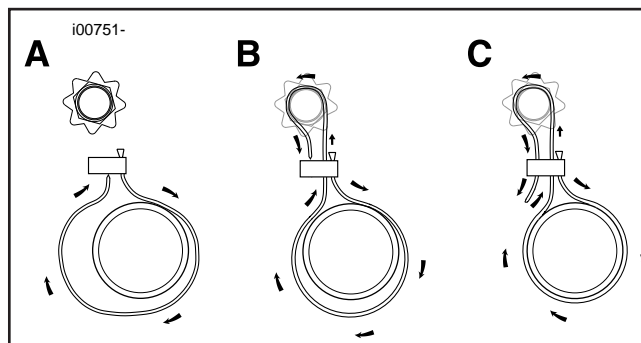
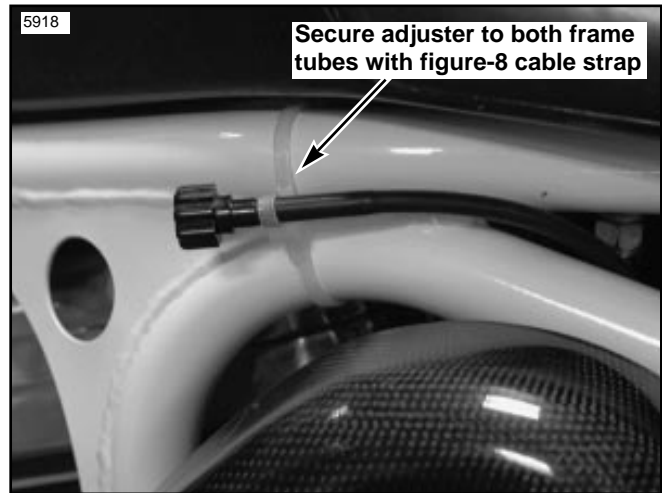

Figure 2. Cable Strap
Figure 4. Adjuster faces rear of motorcycle on S2 models
4. **Installation on S1 model motorcycles:** See Figures 2 and 3. Secure adjuster, facing forwards, to frame with figure-8 cable strap by following these steps:
5. **Installation on S2 model motorcycles:** See Figures 2 and 4. For illustration purposes, Figure 2 shows the cable strap being installed on an S1 model. On S2 models, the figure-8 cable strap will go around **both frame tubes**, as shown in Figure 4. Secure adjuster facing backwards, to both frame tubes with figure-8 cable strap by following these steps: